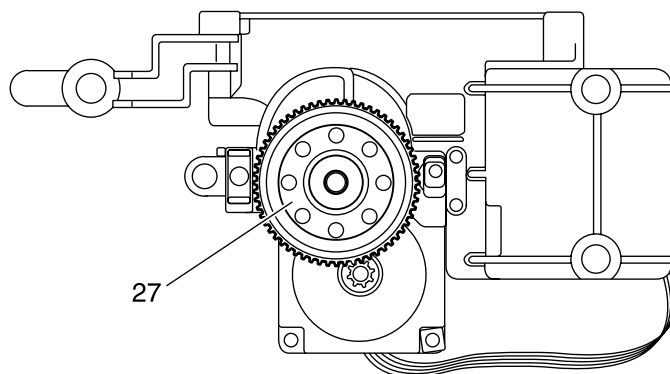

**Fig. 14**
4. Remove the gear 27 (Fig. 14).
6. Insert the plastic washer and the gear 27 (Fig. 14).